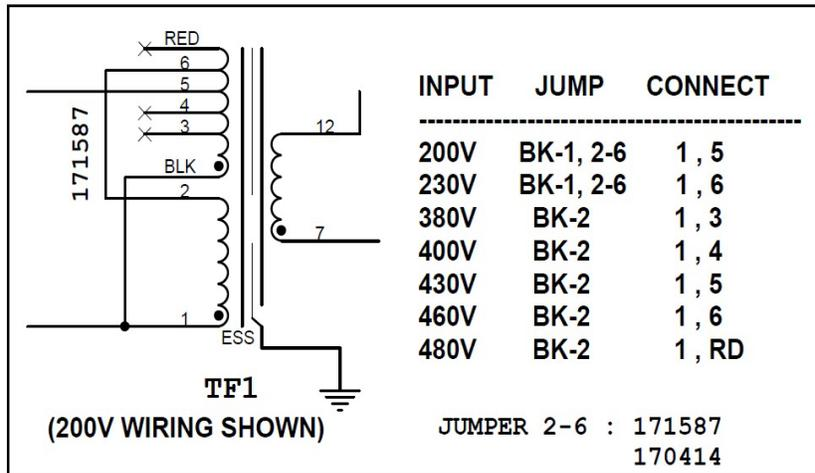

Figure 4-12: Tap Settings for 230 and 480 Volt Transformers
2. Check the transformer tap settings. Refer to the tap setting sticker on the transformer or Figure 4-12.